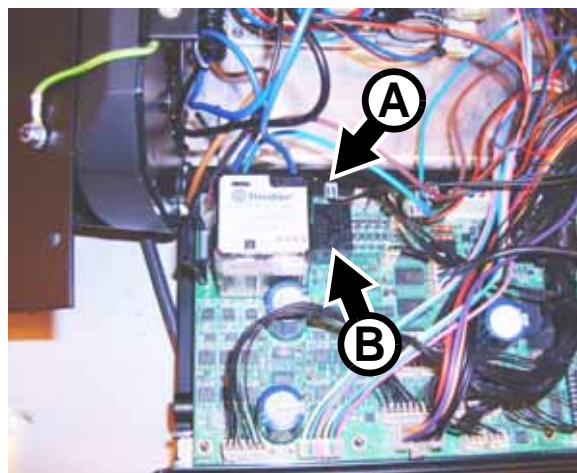

Figure 26
28. See Figure 26. Route the reduced lamp power (dimmer) circuit leads alongside the ballast wiring harness over to the main PCB and plug them into connector PL49 **A** behind the reduced lamp power relay **B** on the main PCB.